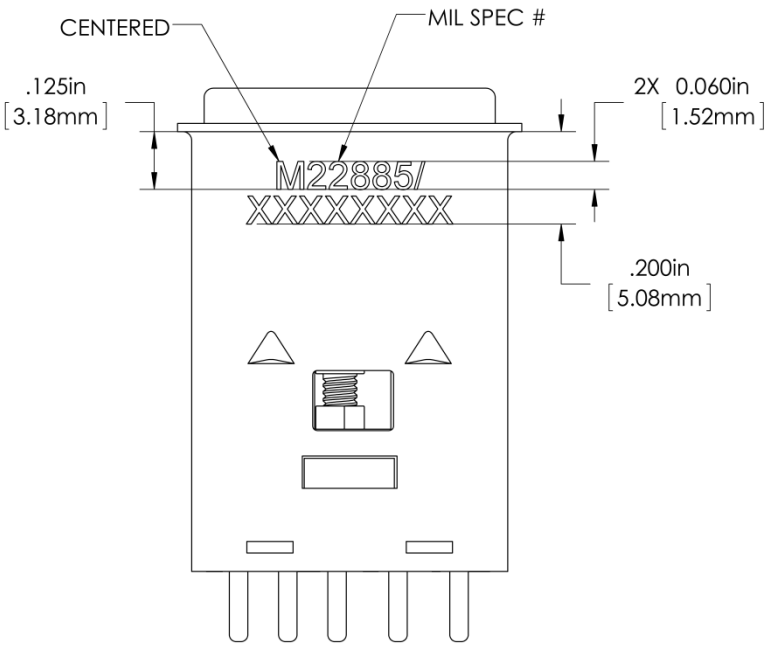

Figure 48: MIL Spec Marking (4 pole & PC Extended Version Shown)
4.8.1.2. For MIL SPEC parts, the following shall be provided as a baseline and as shown in Figure 48: MIL Spec Marking \(4 pole & PC Extended Version Shown\).